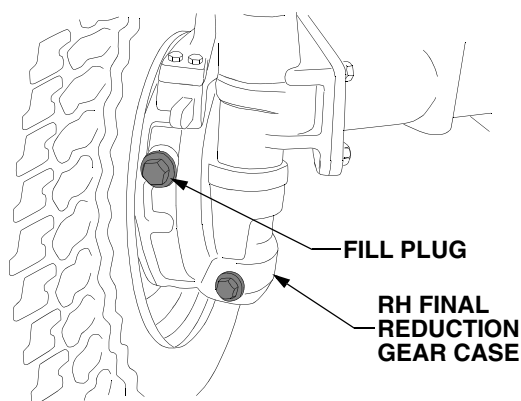

Figure 47
- Locate the fill plugs approximately midway up on the rear of the *right* and *left* gear cases. See Figure 47.